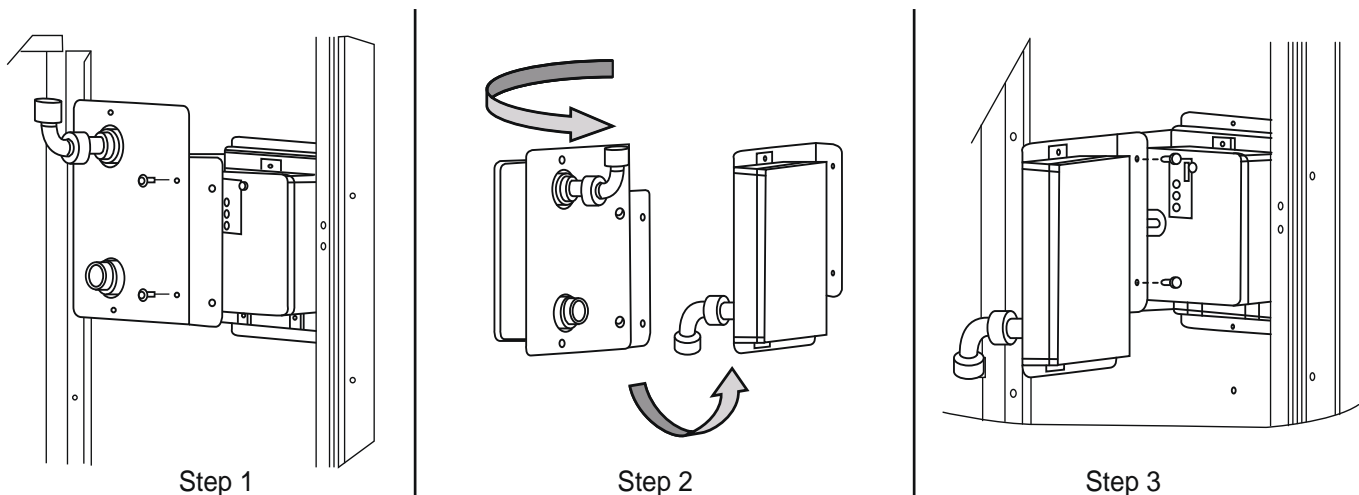

Fig. 128 — Completing Installation of Return Air Smoke Sensor
1. Unscrew the two screws holding the Return Air Smoke Detector assembly. See Fig. 128, Step 1.
3. Turn the assembly 90 and then rotate end to end. Make sure that the elbow fitting is pointing down. See Fig. 128, Step 2.
4. Screw the sensor and detector plate into its operating position using screws from Step 1. See Fig. 128, Step 3.